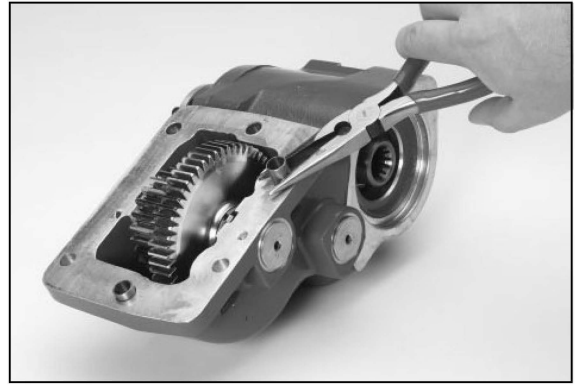

Figure 6
7. There are two split dowels that will act as guides when installing the P.T.O. to the transmission. Gently squeeze the dowel together and install in the top and lower right side mounting hole of the P.T.O. as shown in **Figure 6**. The dowel should be flush with the side away from the mounting face (**Figures 6 and 7**) and protrude into the corresponding mounting holes of the transmission aperture when installing the P.T.O.